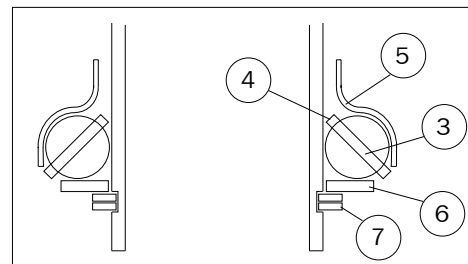

Fig. 5.12.c
- Note that the bearing cage ③ is conical and that the "narrow" end ④ must enter the bearing race ⑤ (towards the top of the lower bearing assembly). See fig. 5.12.c.
6. Mount the washer ⑥ and the new supplied locking ring ⑦. (Never re-use an old locking ring). In order to ensure that the locking ring bottoms, lift the motor unit while pressing the locking ring upwards.